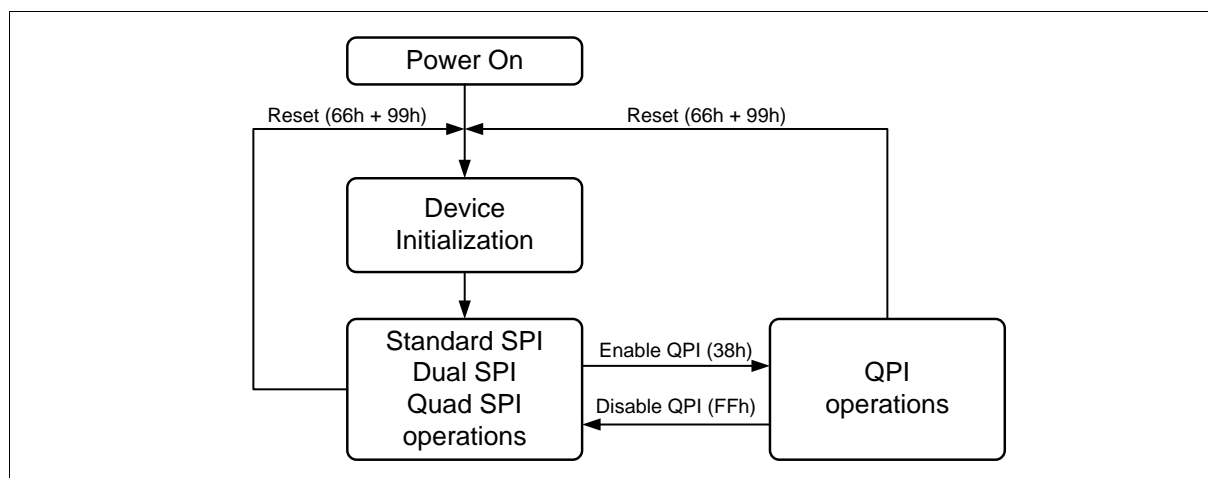

Figure 2 FM25W16 Serial Flash Memory Operation Diagram
The FM25W16 supports Quad Peripheral Interface (QPI) operations only when the device is switched from Standard/Dual/Quad SPI mode to QPI mode using the “Enable QPI (38h)” instruction. The typical SPI protocol requires that the byte-long instruction code being shifted into the device only via DI pin in eight serial clocks. The QPI mode utilizes all four DQ pins to input the instruction code, thus only two serial clocks are required. This can significantly reduce the SPI instruction overhead and improve system performance in an XIP environment. Standard/Dual/Quad SPI mode and QPI mode are exclusive. Only one mode can be active at any given time. “Enable QPI (38h)” and “Disable QPI (FFh)” instructions are used to switch between these two modes. Upon power-up or after a software reset using “Reset (99h)” instruction, the default state of the device is Standard/Dual/Quad SPI mode. To enable QPI mode, the non-volatile Quad Enable bit (QE) in Status Register-2 is required to be set. When using QPI instructions, the DI and DO pins become bidirectional DQ_0 and DQ_1 , and the WP# and HOLD# pins become DQ_2 and DQ_3 respectively. See Figure 2 for the device operation modes.